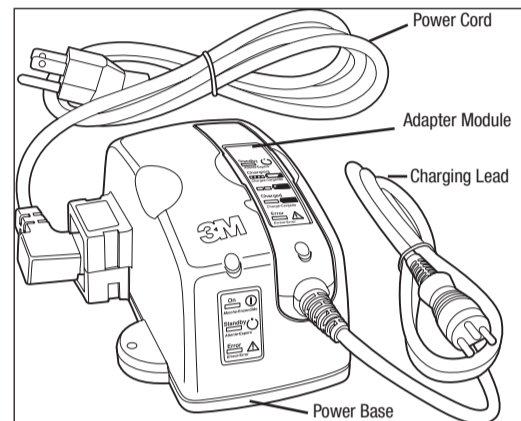

Fig. 1 3M™ Smart Battery Charger BC-210
- Plug the receptacle end of the charger power cord into the side of the 3M™ Smart Battery Charger BC-210 and the prong end of the power cord into an appropriate electrical outlet (Fig. 1). The charger will automatically detect and self-adjust to input voltages of 100 to 240 volts and frequencies of 50 to 60 Hz.